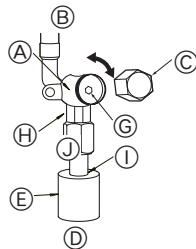
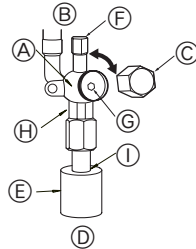

Fig. 4-5
Fig. 4-6
(1) Gas side of P100-P140 (Fig. 4-5)
- ① Remove the cap and turn the valve rod counterclockwise as far as it will go with the use of a 5 mm hexagonal wrench. Stop turning when it hits the stopper. (σ 15.88: Approximately 13 revolutions)
- ② Make sure that the stop valve is open completely and rotate the cap back to its original position.
(2) Liquid side of P100-P140 (Fig. 4-6)
- ① Remove the cap and turn the valve rod counterclockwise as far as it will go with the use of a 4 mm hexagonal wrench. Stop turning when it hits the stopper. (σ6.35: Approximately 4.5 revolutions) (σ9.52: Approximately 10 revolutions)